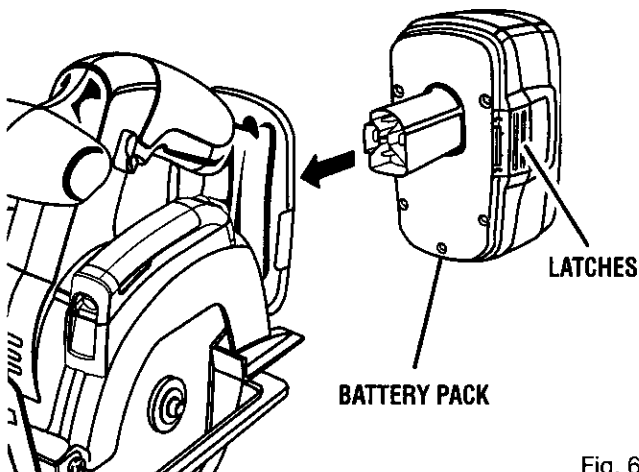

Fig. 6
- Place the battery pack in the charger aligning raised rib on the battery pack with the groove in the charger. See *Figure 6.*
See Figure 6.
- Place battery pack in the saw. Align raised rib on battery pack with groove inside saw, then slide battery pack in saw as shown in figure 6.